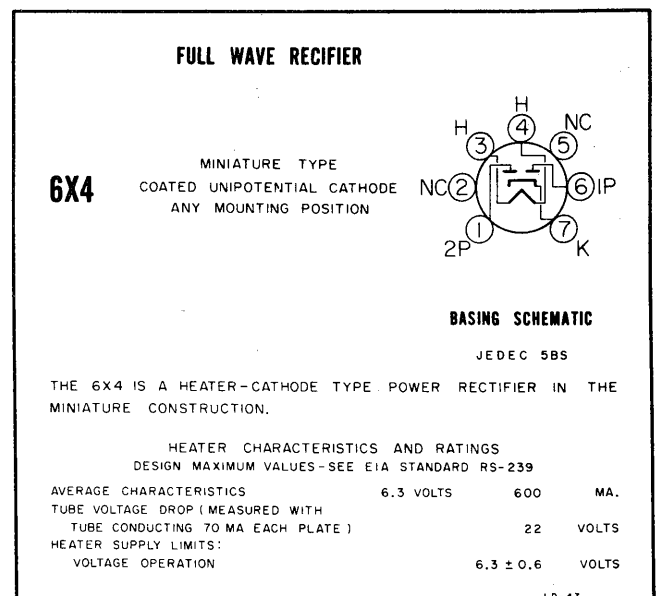
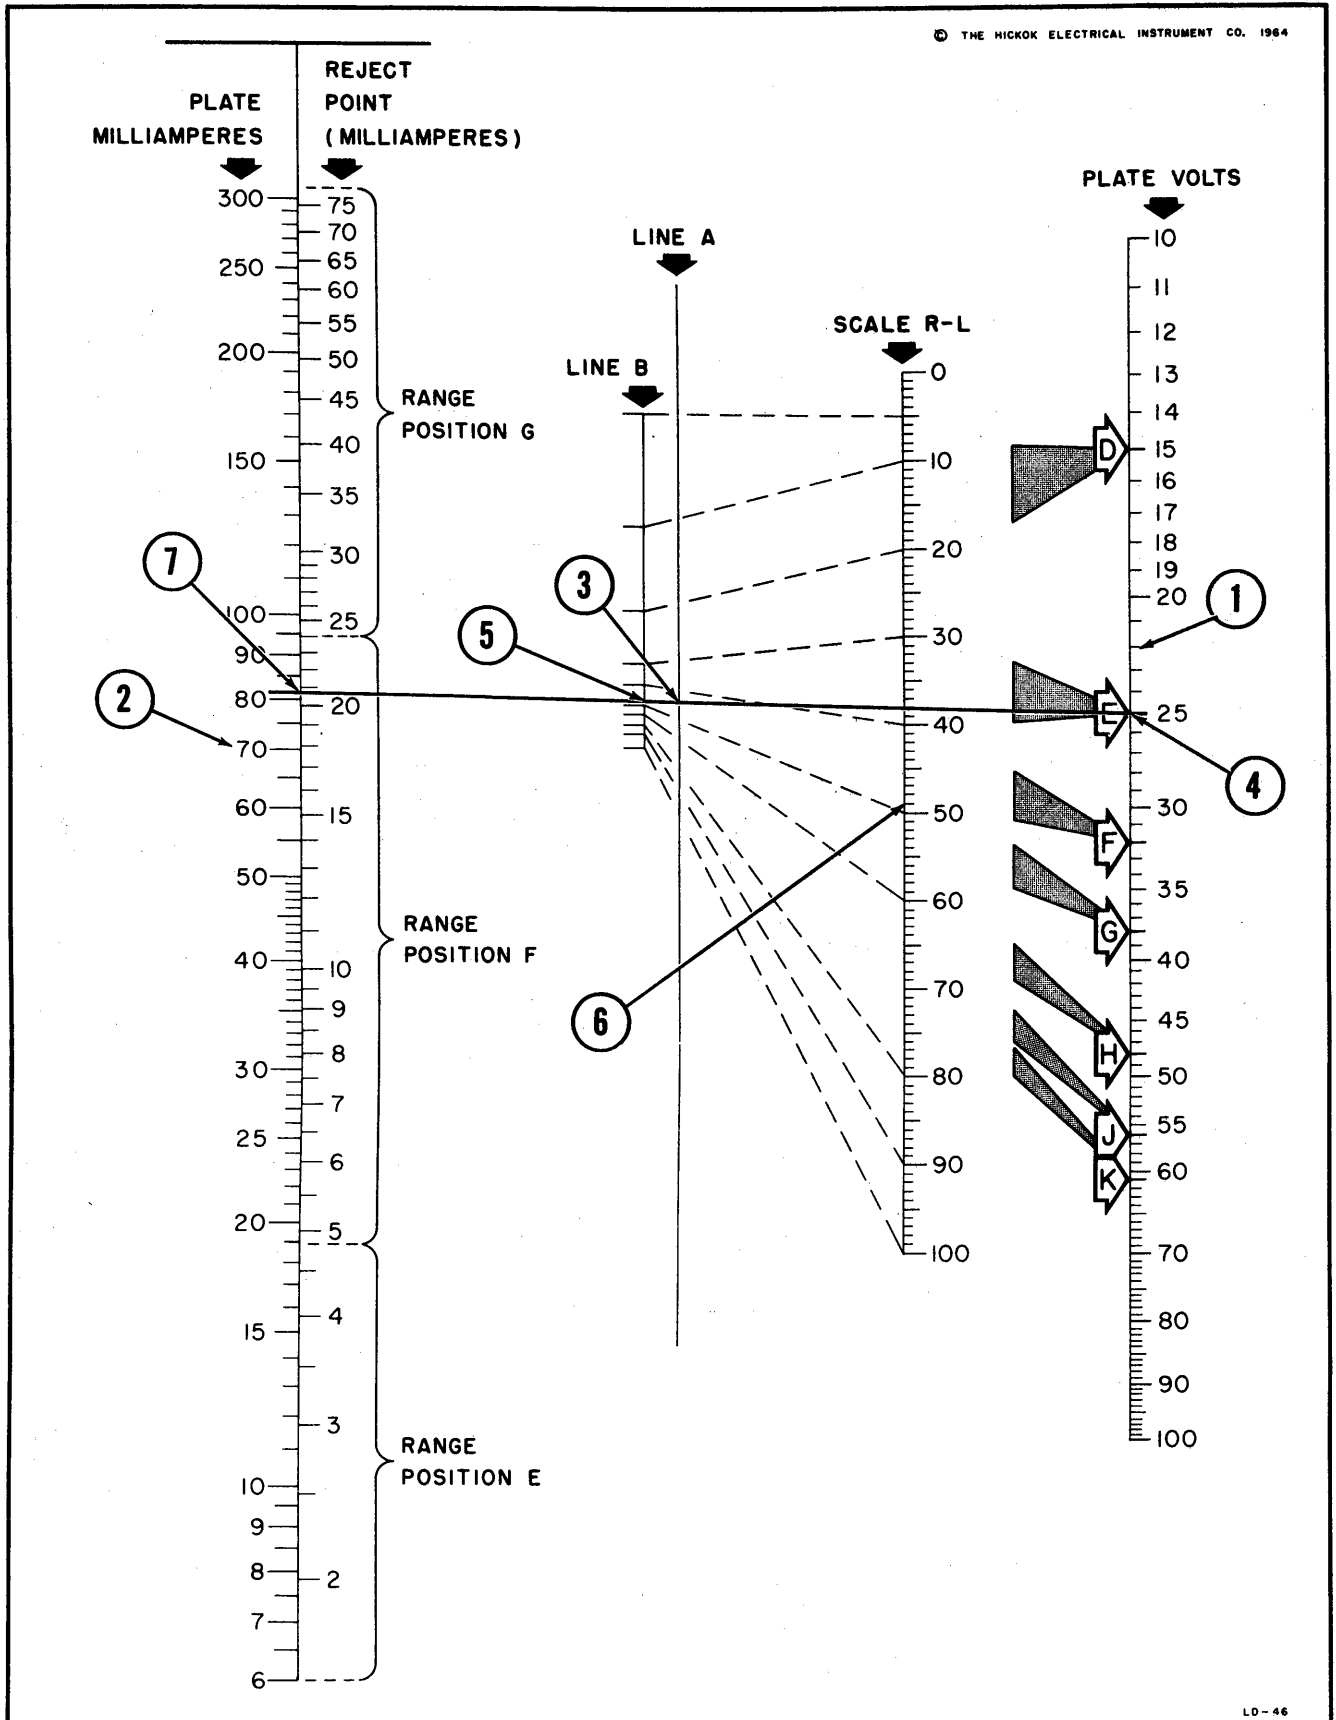

Figure 4-3. Condensed 6X4 Tube Data
Figure 4-5. Method of Using the Power Rectifier Emission Nomograph
To test rectifier tubes other than detector diodes, consult a standard tube data handbook for the specific tube to be tested. As an example, see figure 4-3 of tube 6X4 for a condensed version of such information. This condensed version eliminates data not pertinent to tube testing.
a. Set the first (left) FILAMENT selector on position C. This is the third switch position (counting A= 1, B= 2, and C= 3) and connects to pin three of the tube under test. See figure 4-3 for tube basing. Pin 3 connects one side of the filament of the tube.
i. Determine the SCREEN VOLTS switch setting by using the nomograph (figure 4-5), in the following manner:
1). Using the 6X4 tube (figure 4-3) as an example, place a straightedge on the nomograph between Plate Volts (22 volts) indicated by a number 1 in a circle, and Plate Milliamperes (70ma.) indicated by a number 2 in a circle in figure 4-5.